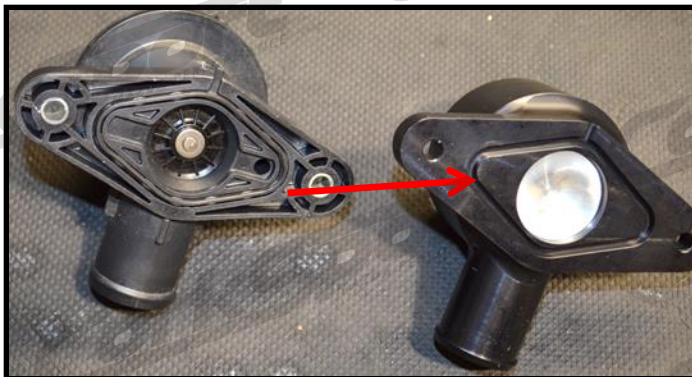

Figure 2a
- a) Transfer the bypass valve gasket from the factory valve to the CorkSport valve (**Figure 2a**).